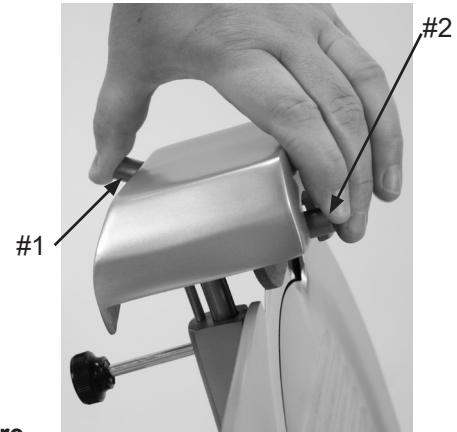

Figure 15-1
2. Push grinding stone button #1 (Fig. 15-1) and honing stone button #2 at the same time so both stones make contact with knife. Maintain pressure on the buttons for 5-10 seconds.
2. Push grinding stone button #1 (Fig. 15-1) so the stone sharpens the back side of knife. Maintain pressure on the button for 30 seconds.
3. Push grinding stone button #1 (Fig. 15-1) and honing stone button #2 at the same time so both stones make contact with knife. Maintain pressure on the buttons for 5 seconds.